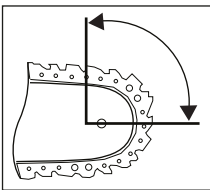

Fig. 1
- Contact with the tip of the rail can, in some cases, lead to an unexpected rearwards reaction resulting in the guide rail 23 flying upwards towards the operator (see Fig. 1).